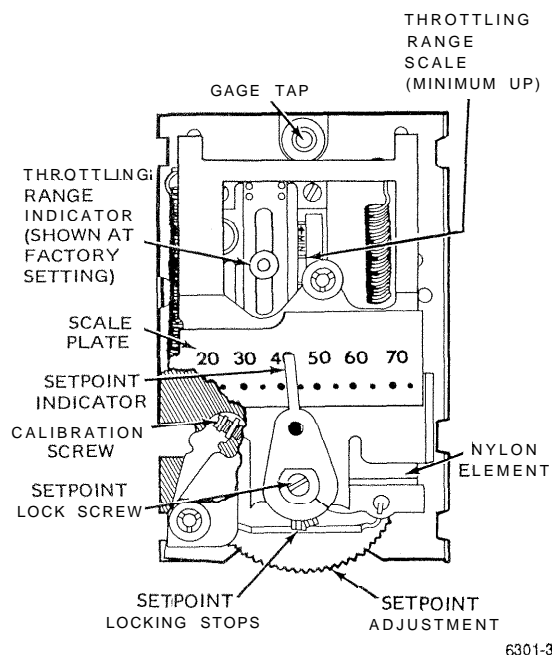

Fig. 18. Humidistat with the cover off showing the adjustment points.
- ① Slide the throttling range indicator (Fig. 18) to the desired indication on the scale.
- ② Move the throttling range indicator up toward minimum on slow response or move it down if hunting or cycling of the controlled device occurs.
- ③ Recalibrate the Humidistat each time the throttling range is changed.
- ③ Measure the rh with a Digital Relative Humidity Indicator Pen CCT915 or other accurate rh measuring device.
- ④ Use the setpoint adjustment to set the setpoint indicator at the actual relative humidity.
- ⑤ Adjust the calibration screw (Fig. 18) until the Pressure Gage reads 0 psi (0 kPa).
- ⑥ Readjust the calibration screw slowly until the Pressure Gage reads 8 ± 1 psi (55 ± 7 kPa).
- ⑦ Allow sufficient time for a complete response and stabilization, then recheck pressure. The Humidistat is now calibrated.
- ⑧ Remove the Pressure Gage and Gage Adapter.